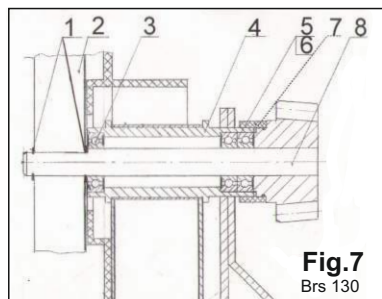

Fig.7
2.3. Remove the retaining ring 1 (Figure 7),